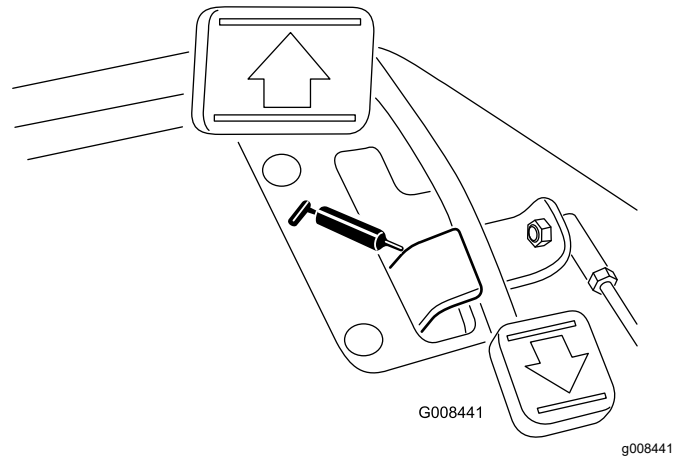

Figure 29
- Traction pedal pivot (1) (Figure 29)